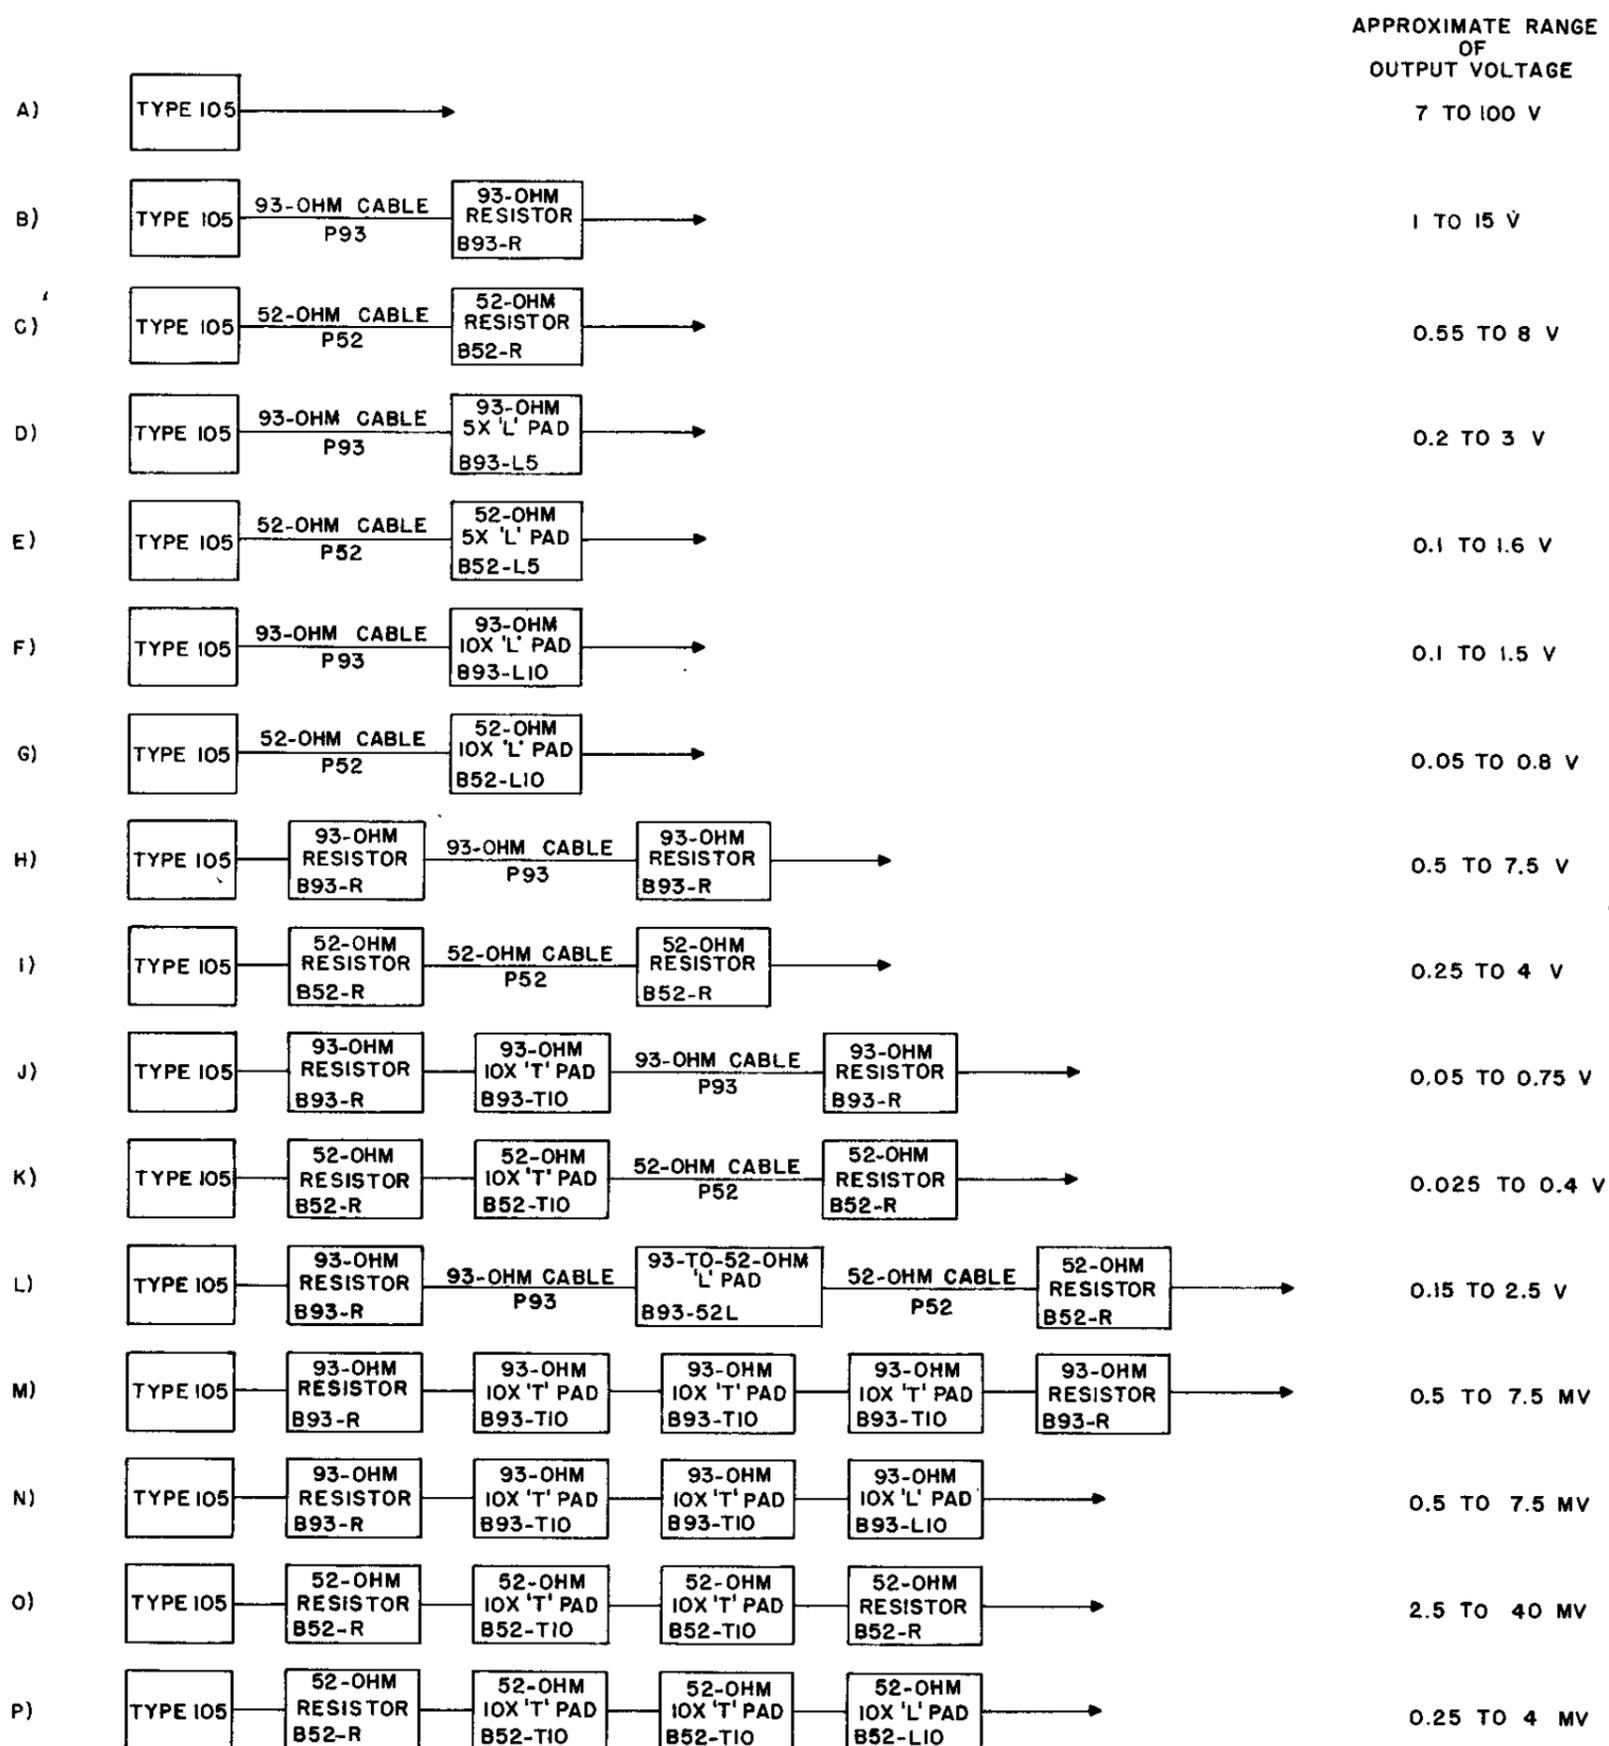

Fig. 2-2. Certain combinations of terminating resistors, attenuator pads and cables.
The range of output voltages that you can get depends upon the amount of external load resistance you connect across the output connector. Block diagrams of some typical combinations of attenuator pads, terminating resistors, and cables are shown in Fig. 2-2, along with typical resulting
The risetime of the square-wave output of the Type 105 is short enough to cause "ringing" (damped oscillations) in an LC circuit whose resonant frequency is less than about 30 megacycles. These oscillations appear along the flat top of a square wave displayed on the oscilloscope. Precautions you can take to avoid this trouble include (1) use of short leads to connect the generator or its output cable or termination to the lead, and (2) use of proper terminating resistors or pads at both ends of the generator output cable (see diagrams H through P, Fig. 2-2).